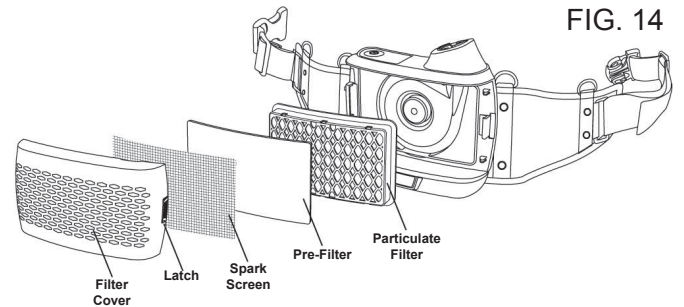

FIG. 14
- Please install the particle filter according to fig.14.